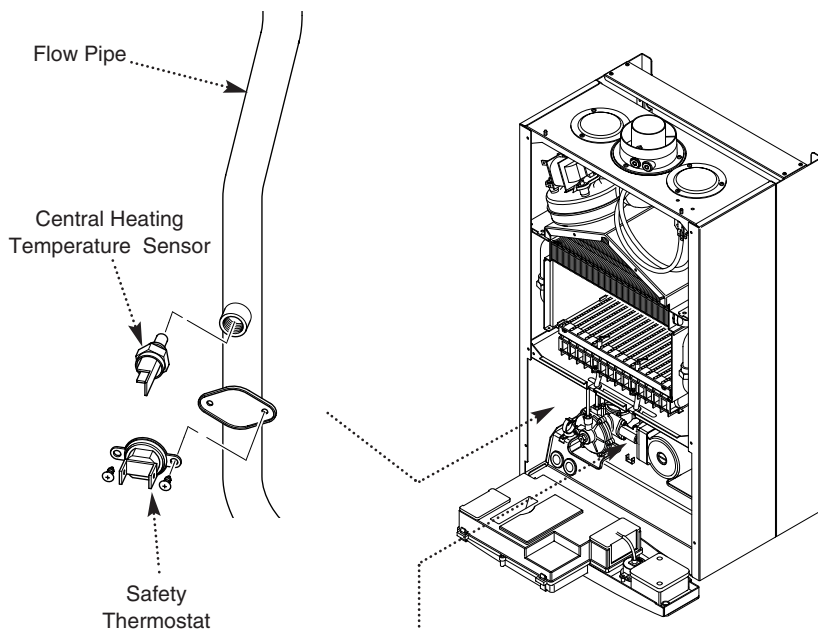

Fig. 53
12.9 Central Heating Temperature Sensor (Fig. 53)
12.10 Safety Thermostat (Fig. 53)